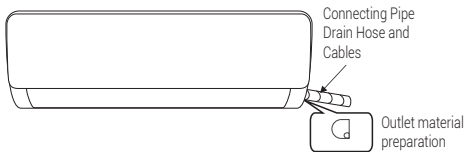

Fig 1
- Depending on the position of the unit, the piping may be routed sideways from the left or the right (Fig 1), or vertically from the back (Fig 2) (depending on the pipe length of the indoor unit). In the case of sideways routing, cut off the outlet cutting stock of the opposite side.